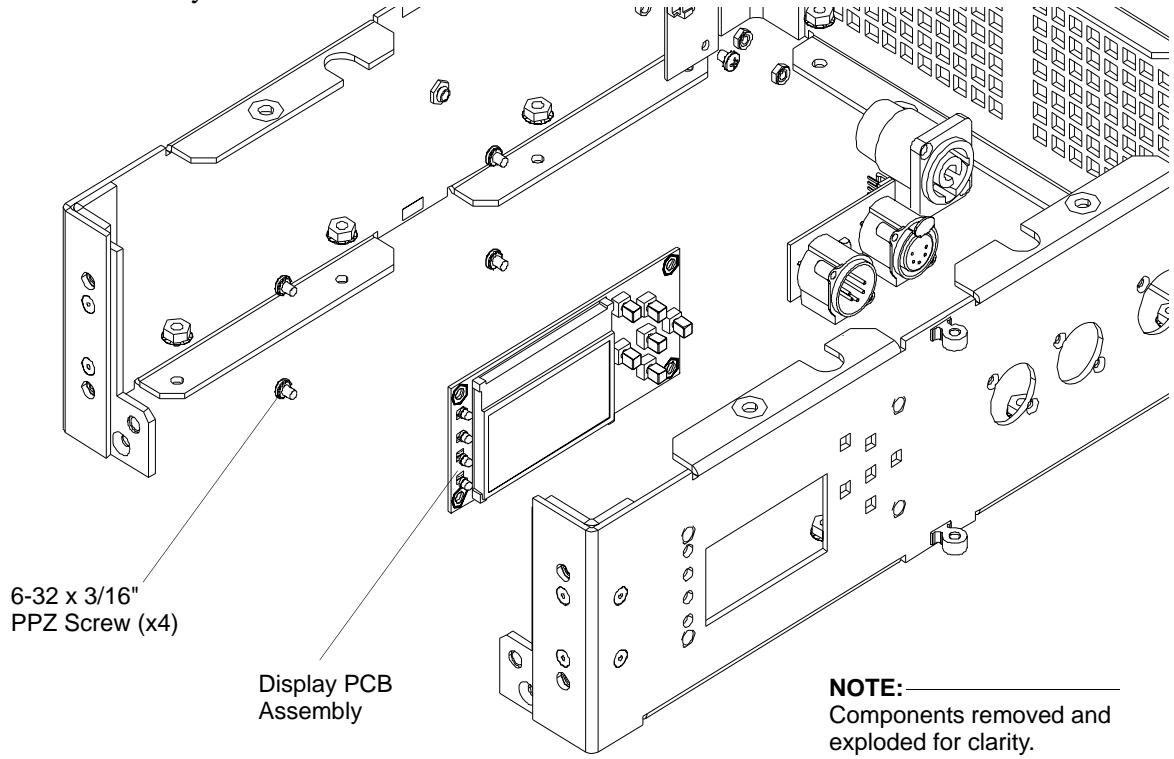

Figure 2-49: Display PCB Assembly Removal
Step 6. As shown in Figure 2-49, remove four 6-32 x 3/16" PPZ screws and remove Display PCB assembly.
Step 6. As shown in Figure 2-49, remove two 6-32 x 3/16" PPZ screws and remove wireless DMX interface PCB assembly.